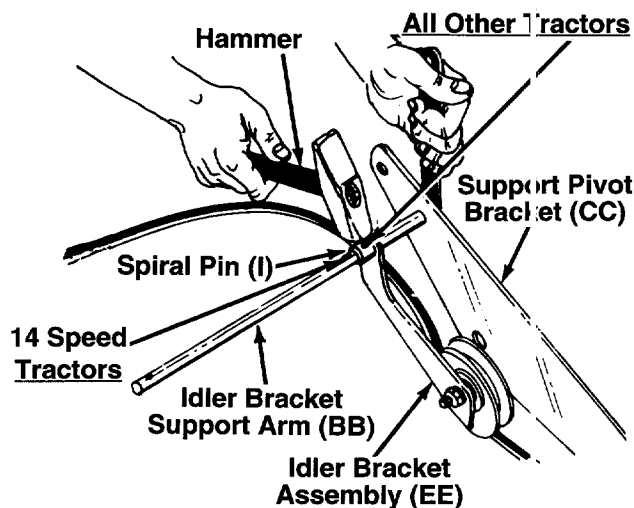

FIGURE 3.
2. Preassemble the idler bracket support arm (BB) to one support pivot bracket (CC) and idler bracket assembly (EE) as follows.
A. Place the idler bracket support arm down through the hole in support pivot bracket shown in figure 3. Then slide the idler bracket assembly over the idler bracket support arm.
B. Secure the idler bracket assembly to the idler bracket support arm using spiral pin (I), using the hole in the idler bracket support arm as follows. See figure 3.